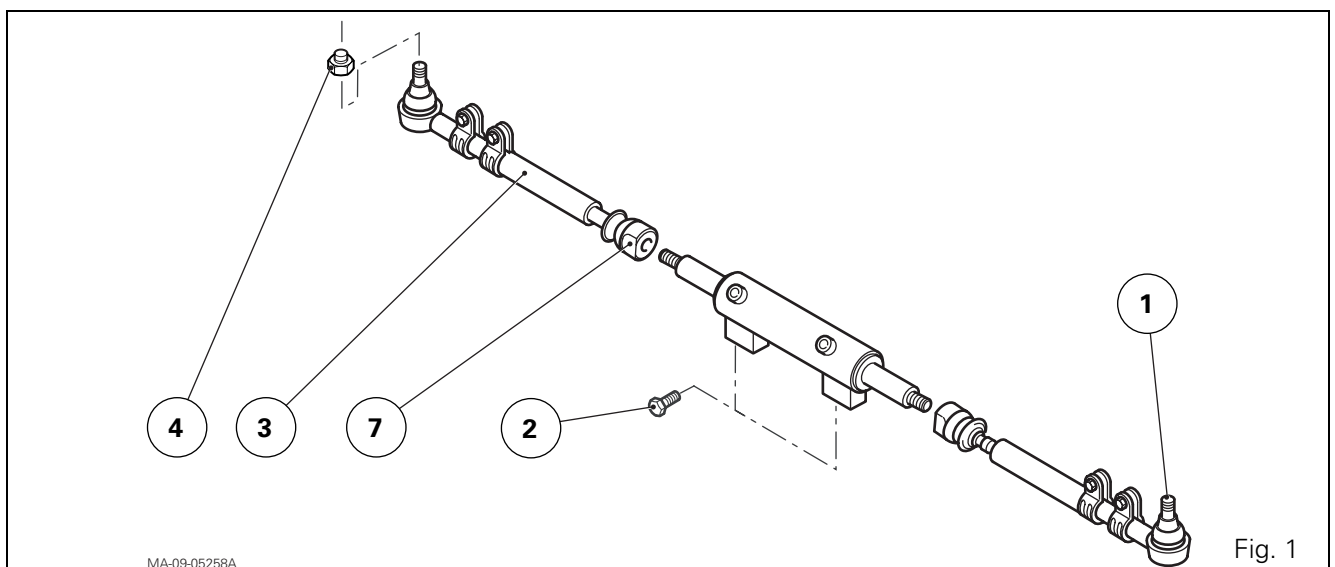

Fig. 1
Removal (Fig. 1)
4. Drive out the ball joints (1) from the steering arms using a suitable extractor.
5. Loosen the screws (2) (Fig. 1).
6. Remove the ram with its link rods (3) and ball joints (7).
Refitting (Fig. 1)